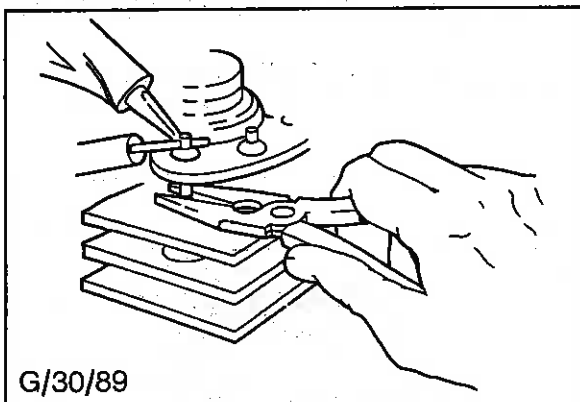

Fig. 46 - Soldering Diode Connections
2. Solder the stator leads to the diode connecting pins using 'M' grade 45-55 resin cored solder. Carry out the operation as quickly as possible, using a thermal shunt to avoid damaging the diode(s). Long nosed pliers are suitable as a thermal shunt - see Fig. 46.